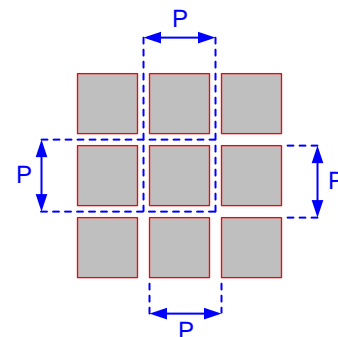

Figure 9. Micromirror Array Physical Characteristics
- (1) See Figure 9.
(2) The structure and qualities of the border around the active array includes a band of partially functional micromirrors called the *Pond Of Mirrors* (POM). These micromirrors are structurally and/or electrically prevented from tilting toward the bright or "on" state but the requirement of an electrical bias to tilt toward "off remains."